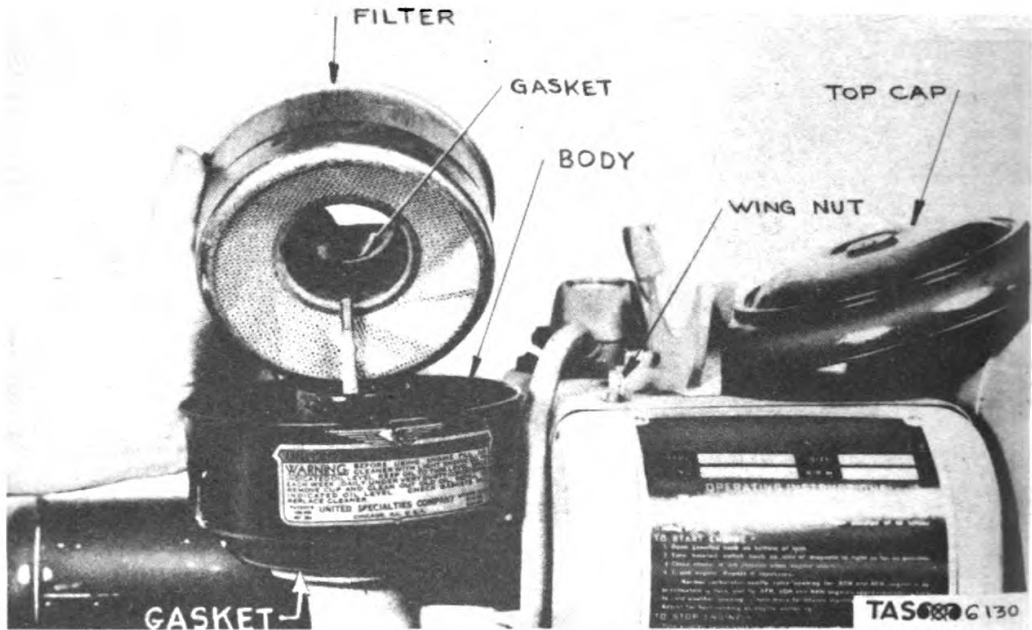

Fig. 130. Filter on Oil Bath Must Be Cleaned Periodically.
(2) The filter of the oil bath which serves as an air cleaner on the generator engine must be cleaned periodically, depending upon operating conditions. (See fig. 130.) The oil in the body, together with the collected dust, should be emptied